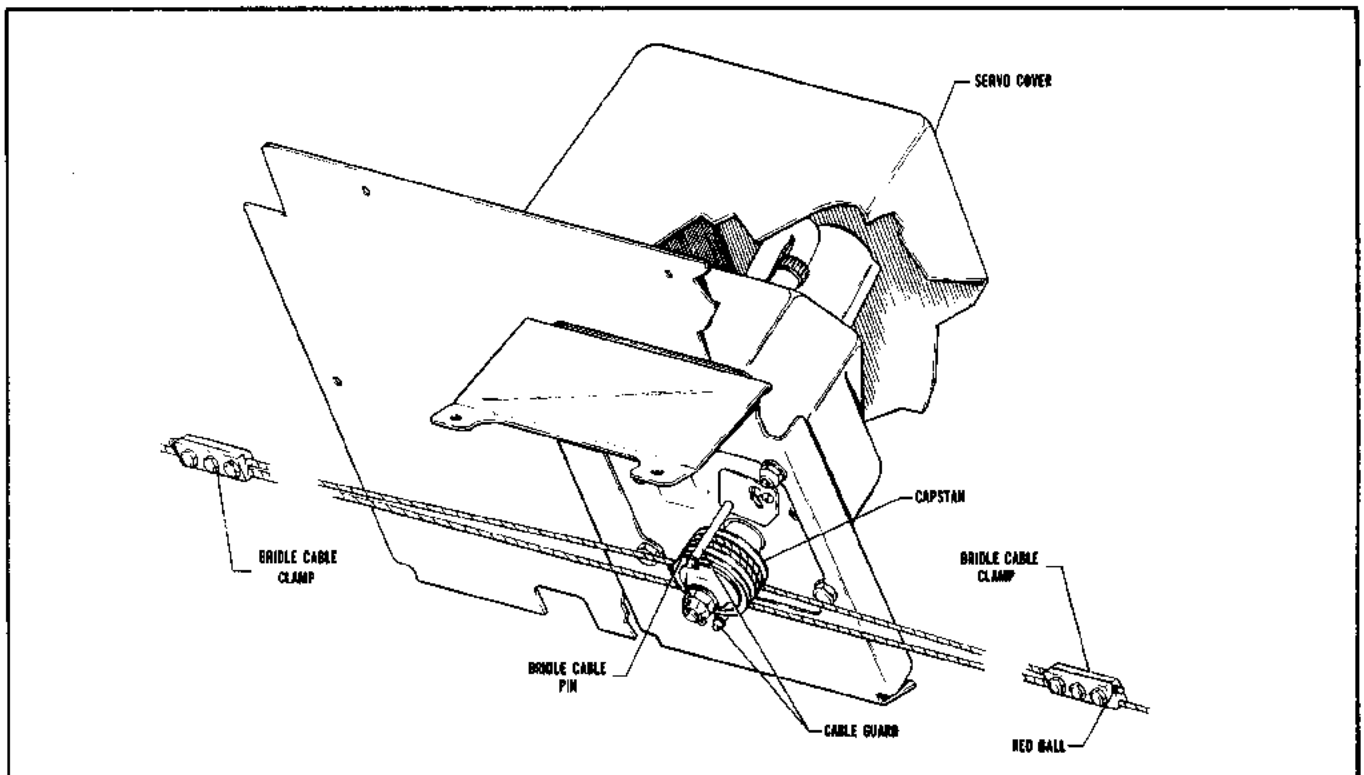

Figure 3-15. Roll Servo Installation, PA-23-250 (Six Place)
3-19. INSTALLATION OF ROLL SERVO. (PA-23-250 Six Place) E & F Models. (Refer to Figure 3-15.)
f. REFER TO FIGURE 3-8 AND CHECK THAT CONTROL CABLE TENSION (Z) IS ADJUSTED TO 40 + 8 - 0 POUNDS PRIOR TO ATTACHING THE BRIDLE CABLE CLAMPS. Ascertain area on cable where clamp attaches is clean, dry and free of all lubricants and anti-corrosive additives. Attach the bridle cable to the aileron balance cable. The bridle cable is drawn to the balance cable and attached with clamps at the previously painted locations on the balance cable. The end of the bridle cable with the red ball extends toward the right side of the airplane. (Refer to Figure 3-15.) (Should the balance cable not be painted, position the control wheel in neutral and align the bridle cable pin, installed in the capstan, as shown in Figure 3-15.) Adjust the bridle cable clamps so the bridle cable tension (Y) is equal to the control cable tension between the bridle cable clamps (X) as shown in Figure 3-8 without increasing the control cable tension from the bridle cable clamps outward. At no time shall the bridle cable tension be greater than the control cable tension between the clamps. Adjusting the bridle cable tension will lower the control cable tension between the two bridle cable clamps. Torque the bridle cable clamp bolts to 55 ± 5 inch-pounds.